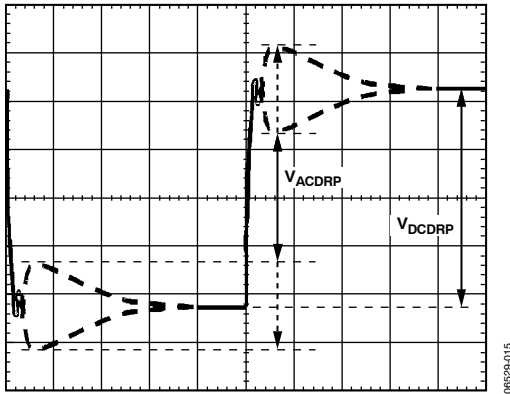

Figure 14. AC Load Line Waveform
14. Measure the output waveform (if not visible, use dc offset on scope to view). Try to use a vertical scale of 100 mV/div or finer. This waveform should look similar to Figure 14.